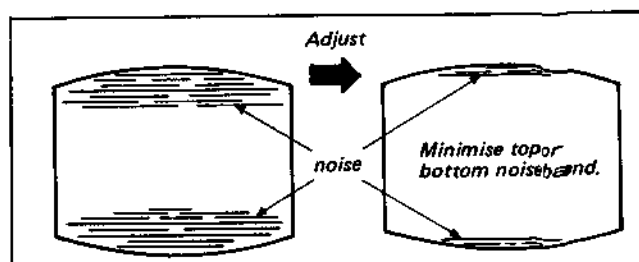

Fig. 4-3-12. Frame-by-frame noise position adjustment
- (1) Set up the STILL mode.
- (2) Push the FRAME switch once and remember the position where the noise stops.
- (3) Turn RV7 clockwise or counterclockwise a little and push the FRAME switch again. Confirm the position where the noise stops varies.
- (4) Repeat Step (3) and adjust RV7 for minimum noise viewed on the picture. (See Fig. 4-3-12.)